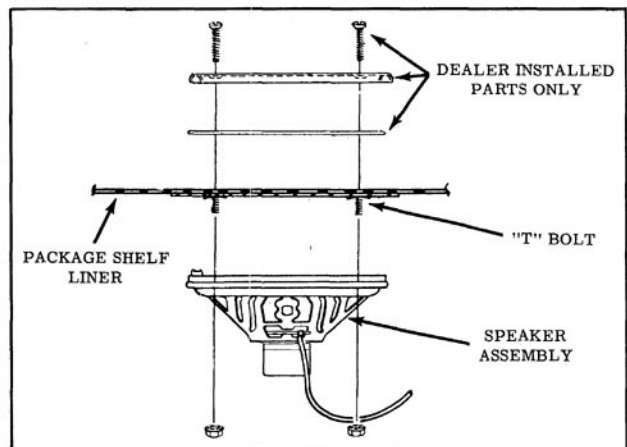

Fig. 12-22 Rear Seat Speaker (Except 35, 45 & 67)
2. Remove four mounting locknuts while supporting speaker to prevent it from dropping. (Fig. 12-22)